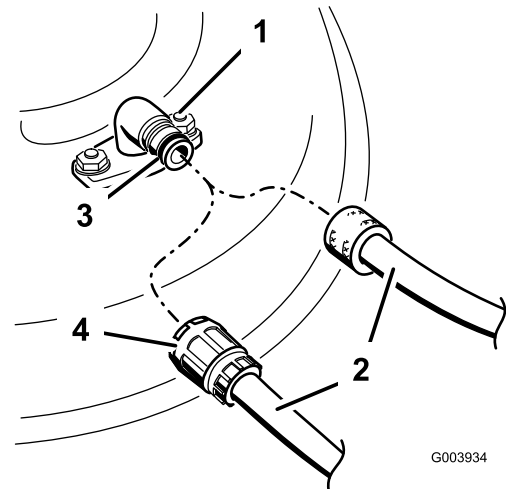

Figure 46
3. Attach the hose coupling to the end of the mower washout fitting, and turn the water on high (Figure 46).